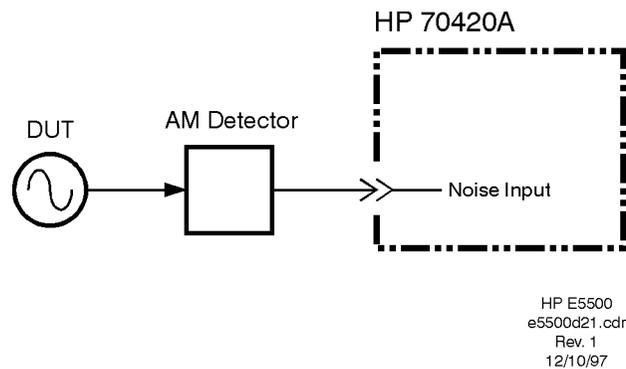

Figure 12-14 *Double-sided Spur AM Noise Measurement Setup Method 1, Example 2*
1. Connect circuit as shown in Figure 12-14, and tighten all connections. If the Agilent/HP 70420A Option 001 or Agilent/HP 70427A is available, use one of the connection diagrams described in “AM Noise Measurement Block Diagrams” on page 12-3.